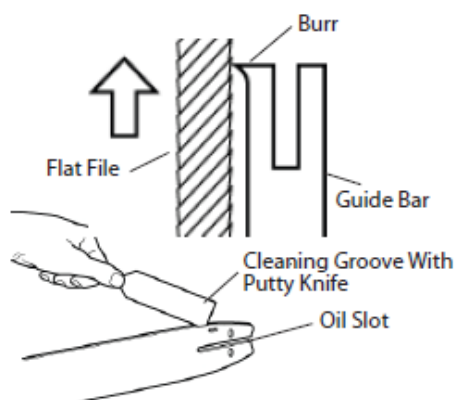

Fig. 5a
- Remove the guide bar (11) from the chainsaw, clean any debris or dust from the surface and the groove.
- Remove any burrs from sides of guide bar with a flat file and clean the groove with a putty knife, see Fig. 5a.